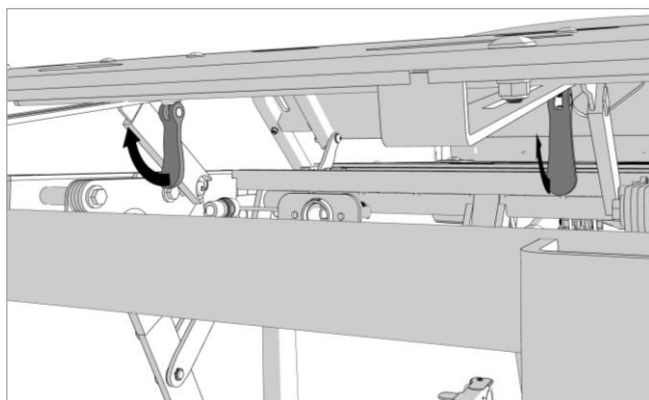
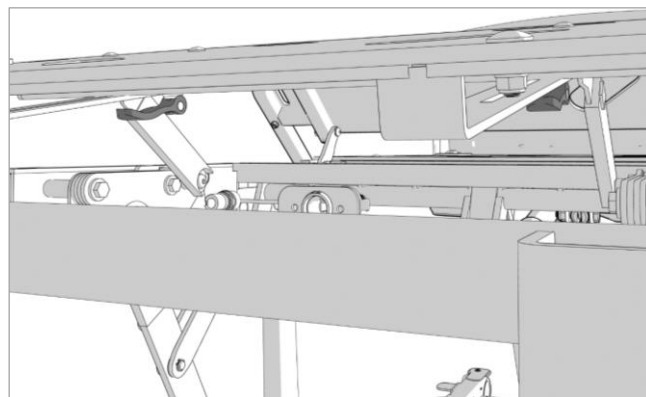

Figure 11.13
Figure 11.14
6. Rotate the Legrest frame locking levers upwards to lock the Legrest mattress platform in the desired position as in Figure 11.13 and Figure 11.14.